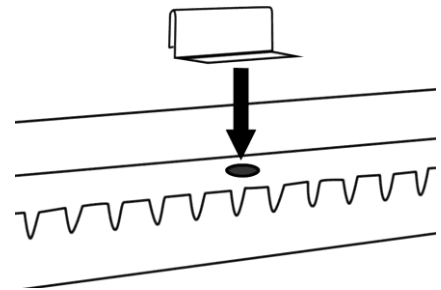

Fig 5.2
2. Drop the water diffuser (F) directly over the center of the disperser hole (Fig 5.2). The diffuser (F) will clip on the back edge of the disperser (E). Make certain the diffuser (F) is sitting directly over the hole (Fig 5.2).
3. During the mounting of the stones the plumbing tubing and connection may have moved behind the stone. Gently lift the bottom edge of the stone forward and pull the plumbing down so it is resting in the reservoir (L). The vinyl tubing should be inside the rounded bump out in the reservoir (L) so the weight of the stone does not pinch it closed.